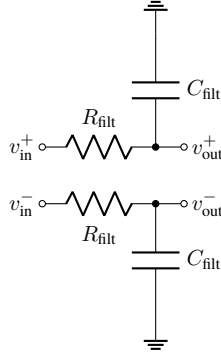

Figure 12: ADC Input filter Equivalent Circuit.
Figure 12 shows ADC input filter equivalent circuit. For an 18 bit, the error of a full scale range (FS) step in a single-pole RC filter after acquisition time t_{ACQ} is $\exp\left(-\frac{t_{\text{ACQ}}}{R_{\text{filt}}C_{\text{filt}}}\right)$ FS and a half LSB is approximately 2^{-19} FS. Then we have